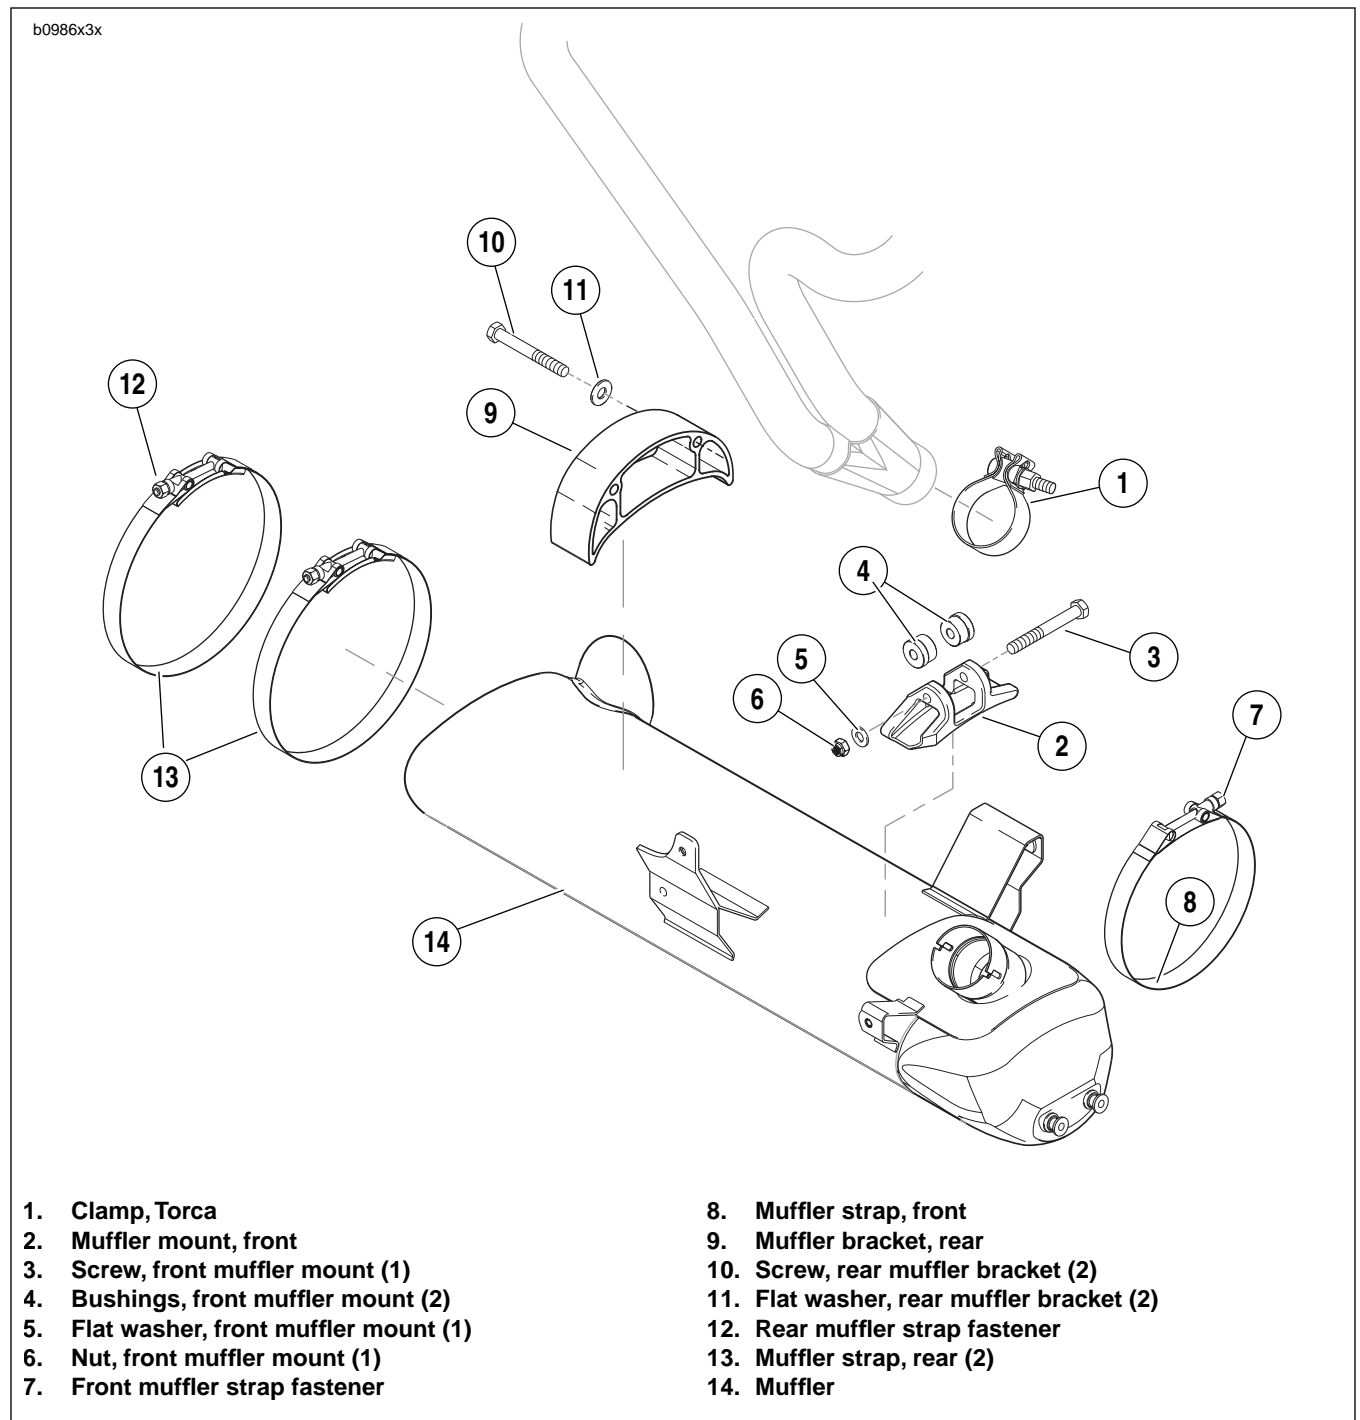

Figure 3-54. Muffler and Mounting System
36. See Figure 3-54. Install muffler with Torca clamp but do not tighten: 2.31 EXHAUST SYSTEM